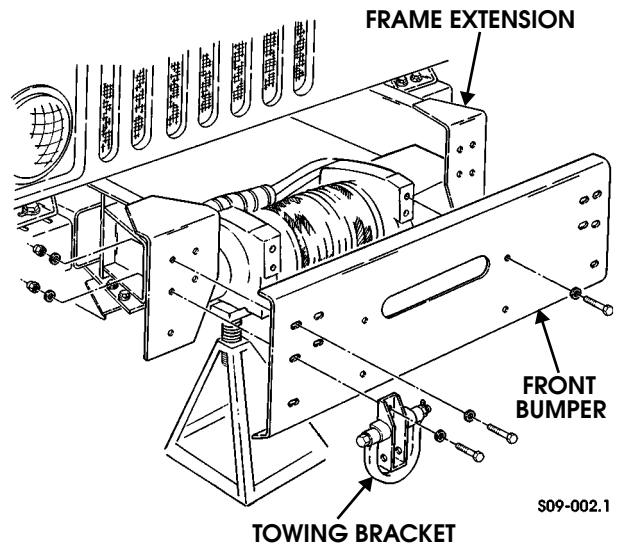

Figure 9-124: Front Bumper and Towing Bracket Replacement for Vehicles With Winch
1. Remove four bolts and washers securing winch to front bumper (Figure 9-124).
1. Install front bumper on frame extensions with six washers, bolts, five washers, and locknuts. Tighten bolts to 90 lb-ft (122 N•m) (Figure 9-124).